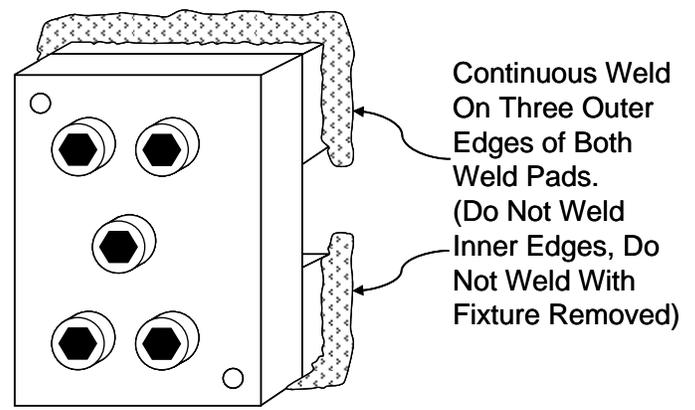

Figure 35: Weld Pad Welding Technique
- 5) Hold the alignment/clamping fixture firmly on the mounting area in the direction of tension or compression of the structural member or, alternatively, drill a 5/8" deep hole through the center hole of the alignment/clamping fixture, tap for 1/4 x 28 threads, and bolt the alignment/clamping fixture to the mounting area through the center hole. Tack weld both sides of each intermediate pad to the mounting surface first, then continuously weld the outer ends and sides of the intermediate pads to the mounting surface, as shown in Figure 35.